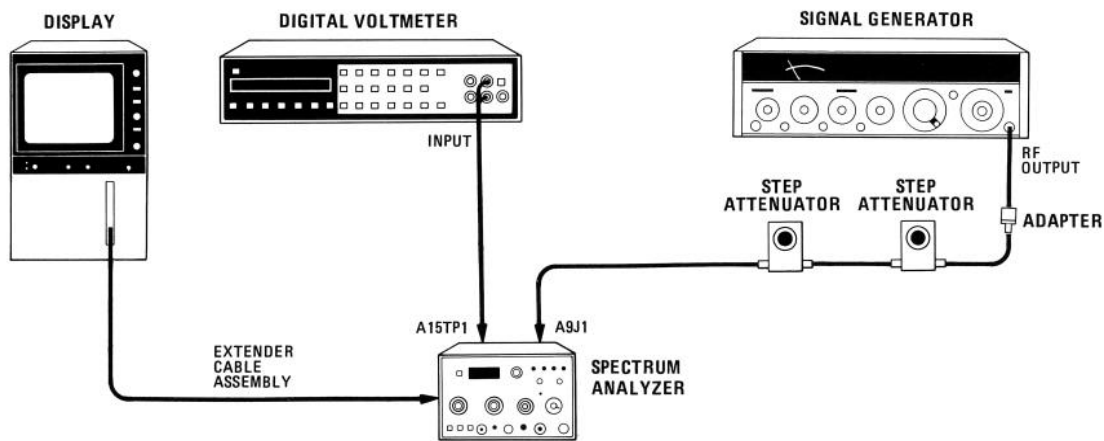

FIGURE 5-13. LOG AMPLIFIER AND LINEAR ADJUSTMENT TEST SETUP
2. Connect equipment as shown in Figure 5-13. Set 1-dB step attenuator to 10 dB. Set signal generator frequency to 301.4 MHz and OUTPUT LEVEL to -13 dBm. Remove W7 from A9J1. Connect signal generator output through step attenuators and test cable to A9J1.